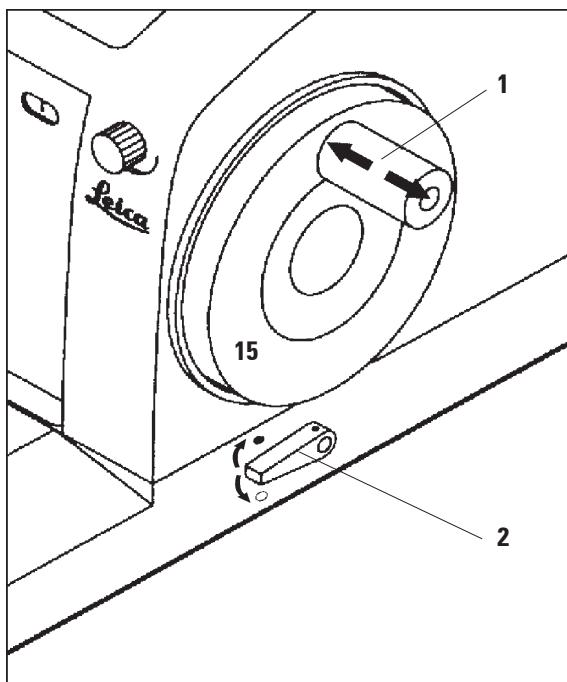

Fig. 2
The handwheel (15) can be locked in the 12-o'clock position (Fig. 2).
With the lever (2) on the right side of the microtome base plate, the handwheel brake can be activated with the handle in any position. When the lever is pushed upward, the handwheel is locked in position. Two symbols on the microtome base plate indicate the 'locked' and 'unlocked' position (Fig. 2).